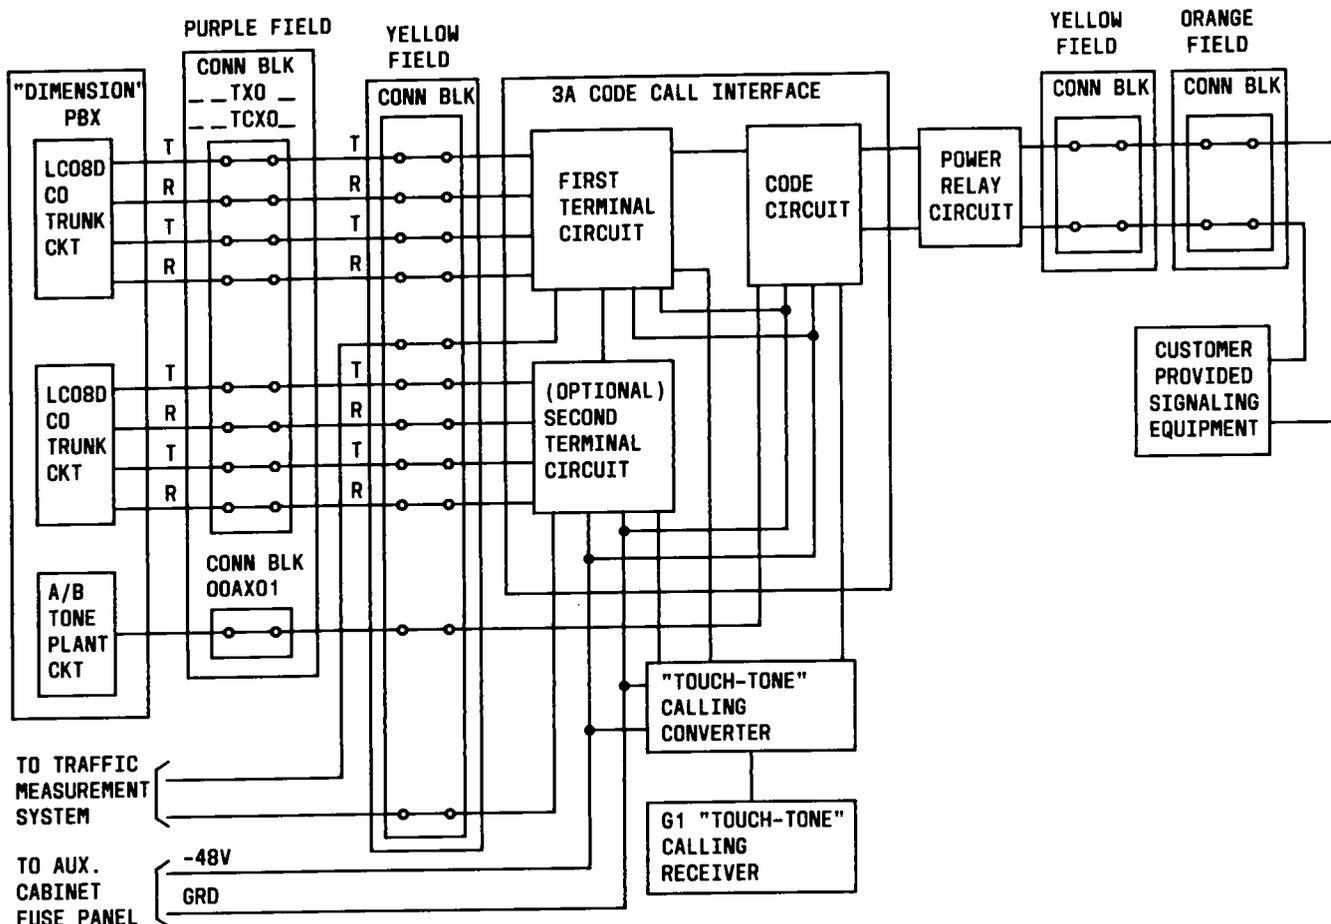

Fig. 11—General Connection Diagram for 3A Code Call Access
**4.35** The 3A code calling unit may have two incoming ports and two answer ports. These four ports are connected to CO trunk circuits (LC08D) via the cross-connect field (Fig. 11). In a PBX with light traffic, only one incoming port and one answer port may be necessary. The second incoming port and answer port are optional and can be used in PBX systems where heavy traffic is anticipated.